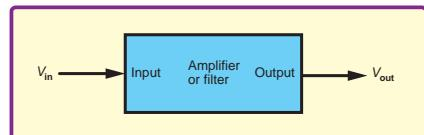
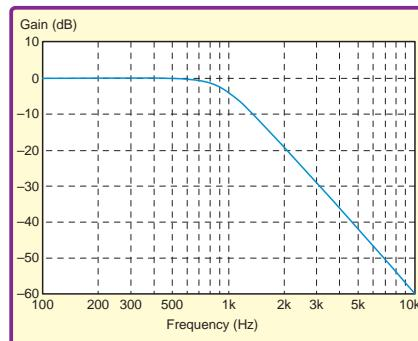
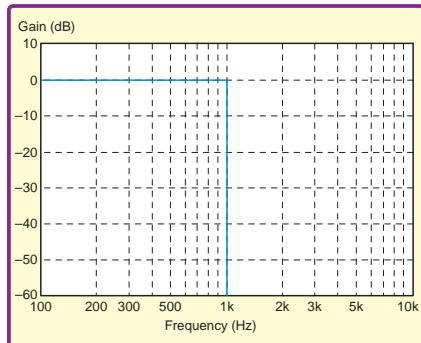

Fig.1. Simple electronic system; the gain is $v_{\text{out}}/v_{\text{in}}$.
Fig.2. Example frequency response graph of a 1.0kHz low-pass filter.
Fig.3. Frequency response graph of a 1.0kHz 'Brick Wall' low-pass filter. This perfect filter cannot be built as a real circuit.
Starting with circuit fundamentals, a filter or amplifier is an electronic system (see Fig.1) which reproduces the signal on its input (v_{in}) on its output (v_{out}). Typically, the output has different amplitude and power delivery capabilities. The ratio of output to input signal level $v_{\text{out}}/v_{\text{in}}$ is the voltage gain (G) and very often (as in **741's** question) we are interested in how the gain of a circuit varies with frequency, known as the 'frequency response' of the circuit. Often, a frequency response is shown by plotting a graph of gain against frequency (see Fig.2, which we will discuss in more detail shortly). Such a plot can be obtained by measurement in a lab, by simulation or by plotting a mathematical function derived from analysis of the circuit. The frequency response graph can be used to help decide if a circuit is appropriate for
On the decibel scale, a gain of 1 is 0 dB, gains greater than 1 (amplification) are positive and gains less than one (attenuation) are negative. The graph in Fig.2 shows a filter with unity-gain at low frequencies and increasing attenuation at high frequencies. The scale points of -10, -20, -20, -40... correspond to attenuations of 1/3.2, 1/10, 1/32 and 1/100 respectively. To convert from a voltage gain (G) expressed in dB to a simple numerical gain find $10^{(G/20)}$. For a power gain use $10^{(G/10)}$.
An ideal low-pass filter would pass all signals below the cut-off and completely reject all signals above the cut-off. The frequency response graph would look like Fig.3. Unfortunately, this perfectly sharp cut-off, which is referred to as a 'brick wall' filter, cannot be physically implemented.
Instead, real filters have a more gradual decrease in gain in the transition from pass band to stop band; for example, the frequency response in Fig.2. The question then arises as to where the cut-off is taken to be along the smooth curve. The usual answer is that the cut-off is defined to be the frequency at which the output power from the filter falls to half that in the pass band, this is $10 \times \log_{10}(0.5) = -3$ dB. For example, for the response shown in Fig.2, the cut-off frequency is 1kHz (the same as the brick wall filter in Fig.3).